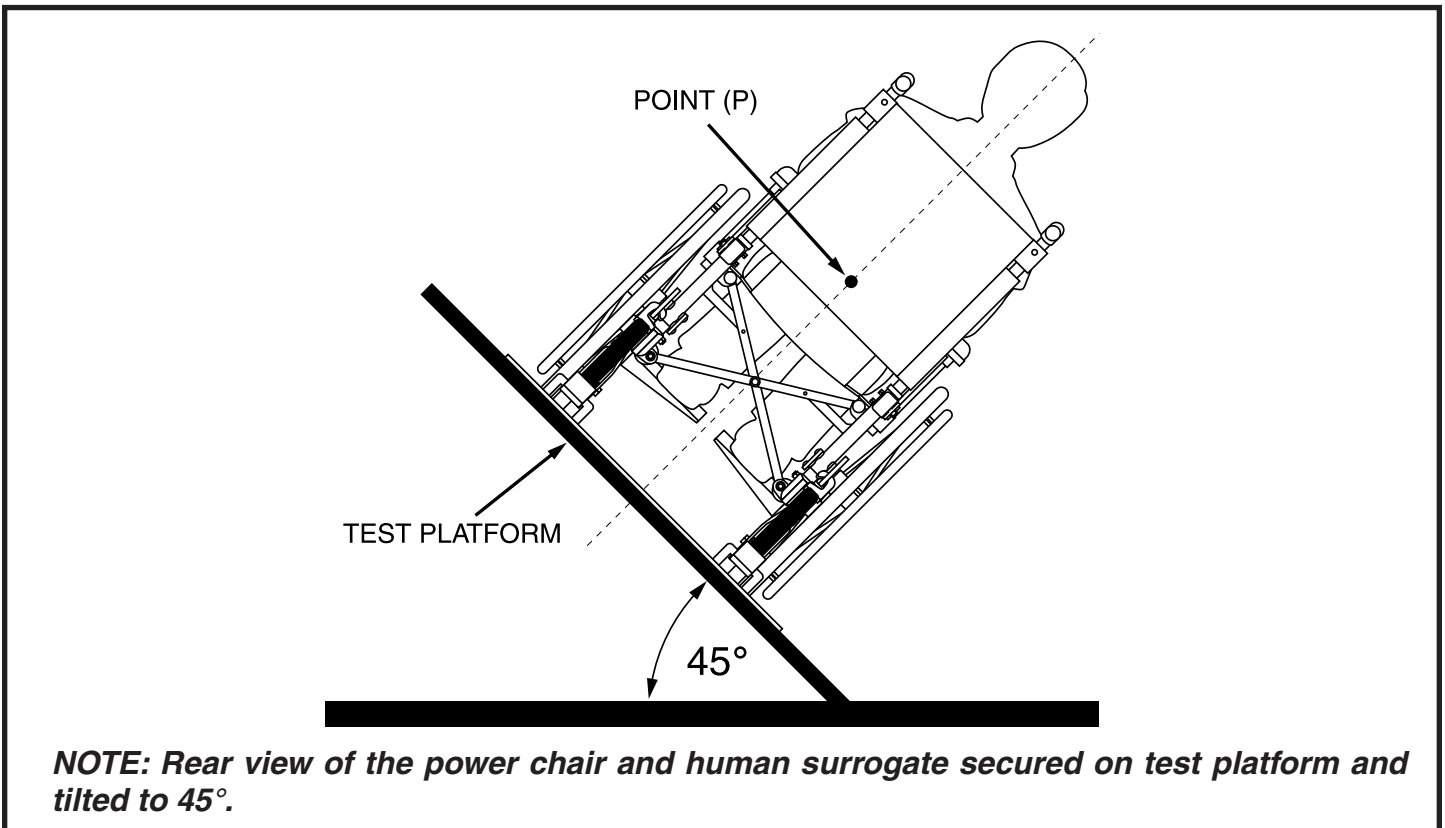

Figure 19. Lateral Stability Displacement Illustration
- The test for Lateral Stability Displacement for Point (P) is shown in **figure 19**. The average test result for Point (P) is: